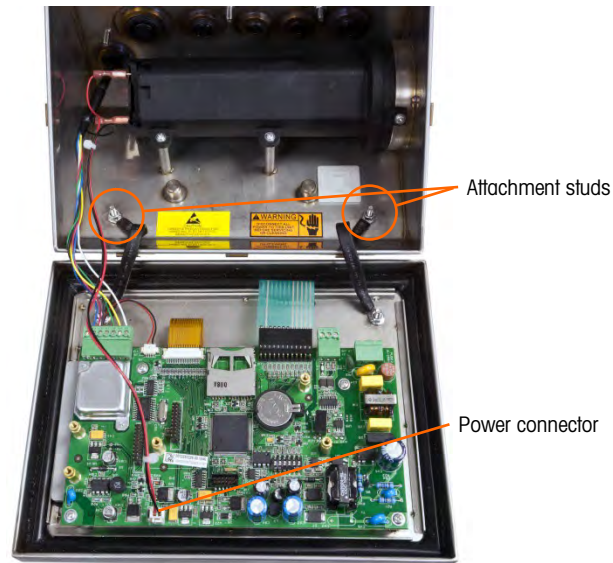

Figure 2-7: Preparing to Detach Front Panel
1. Open the enclosure as detailed in the Opening the Enclosure section. For steps 3 to 6, refer to Figure 2-7.